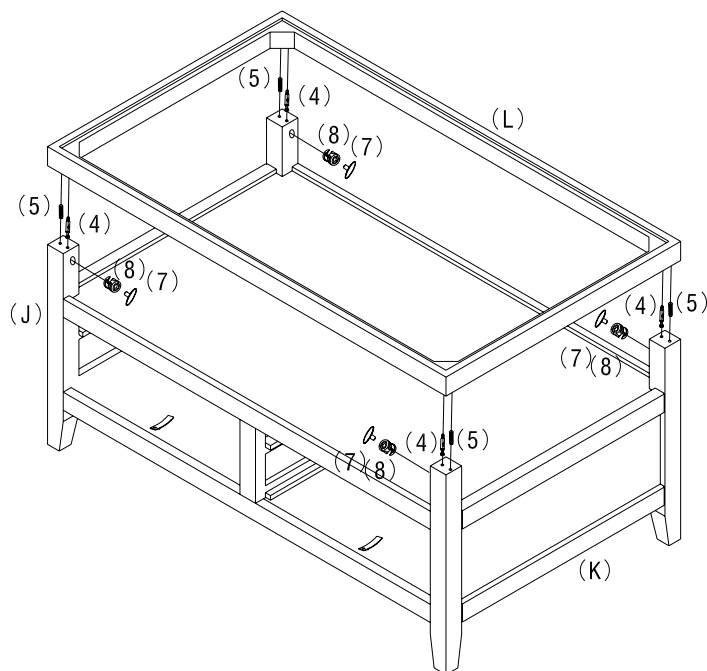

FIGURE 7
- UPRIGHT THE ABOVE UNIT, INSERT CAM-BOLTS (4), LARGE WOOD DOWELS (5) INTO PREDRILLED HOLES ON TOP FRAME (L) AND FIT INTO CORRESPONDING HOLES ON TOP OF SIDE FRAMES (J, K). INSERT CAM-LOCKS (8) INTO LARGE HOLES ON SIDE FRAMES (J, K) WITH ARROW FACING TOWARDS HOLE. ROTATE CAM-LOCKS (8) CLOCKWISE TO SECURE CAM-BOLTS (4). PUSH COVERS (7) INTO CAM-LOCKS (8). (AS SHOWN IN FIGURE 7)